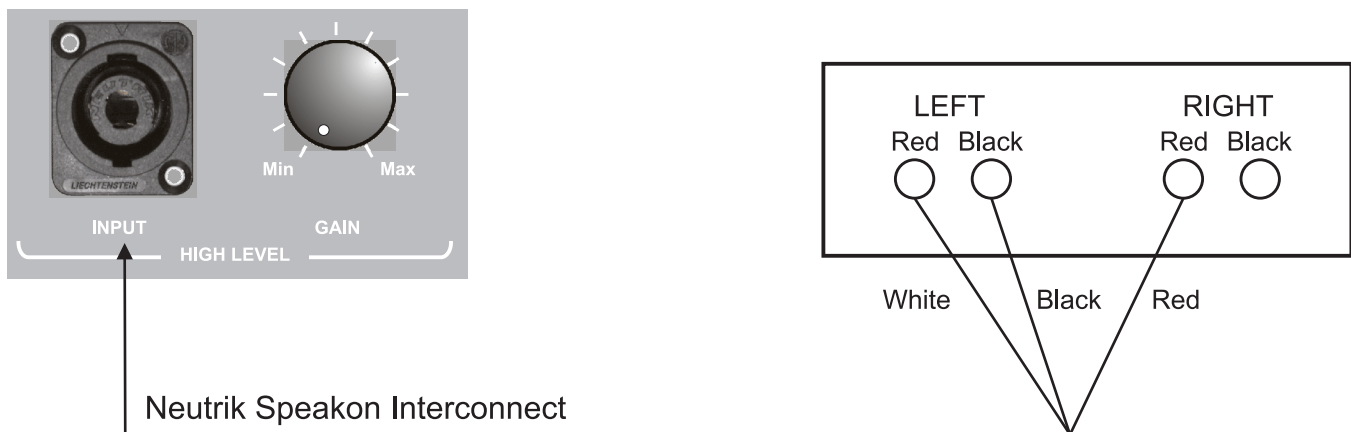
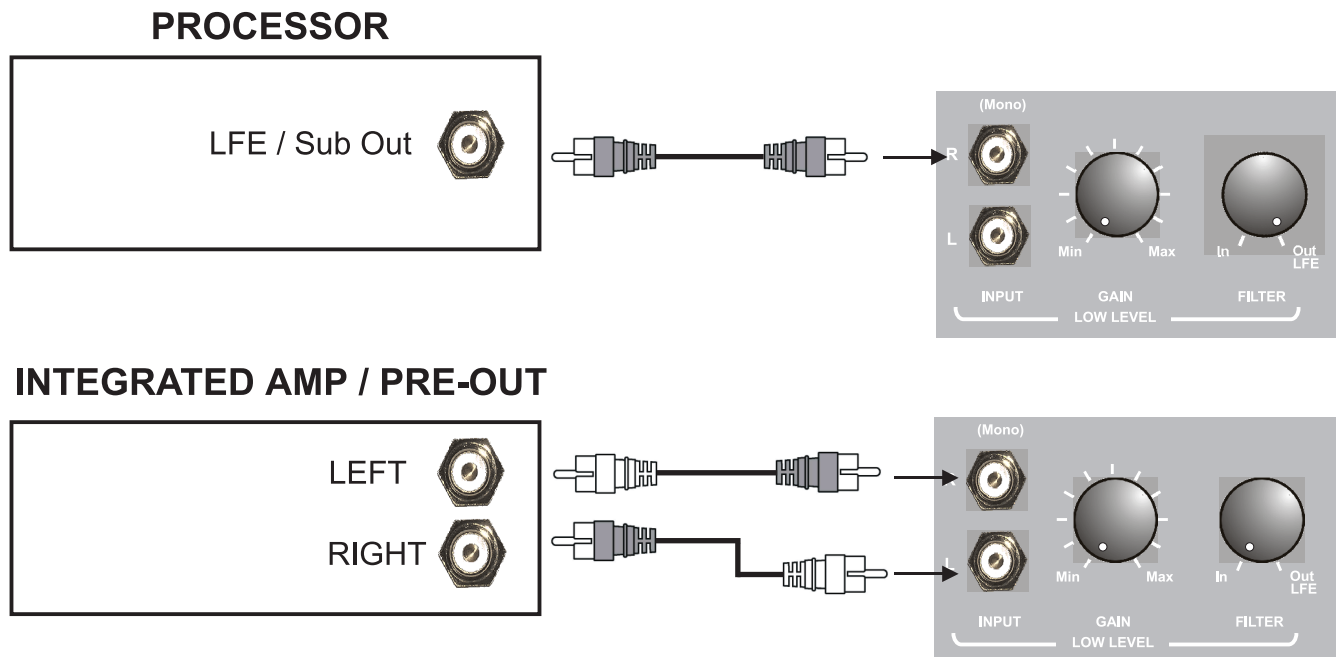

Figure 1.
Figure 2.
Figure 1. Shows a diagram on how to connect the high level input. Using the optional Neutrik lead, connect the XXLS400 to the output of your amplifier via your existing speaker plug or to a spare set of speaker terminals if available. In effect you are Bi-Wiring your XXLS400 to your power amp. Please note that the Neutrik cable has only three leads and is arranged this way to preserve the star earthing of your amplifier (assuming it has a star earth arrangement).
Figure 2. Shows a diagram on how to connect the low level input. Using the supplied RCA to RCA interconnect, plug one end into the XXLS400 low level input and the other end into the dedicated sub output on your amplifier or processor. If a sub out is not available then you can use a spare set of pre-amp outputs.
- Connect your XXLS400 as shown in Figure 1 or Figure 2. Then attach your subwoofer to the power supply using the power cable supplied, at this point have the power switch in the off position.